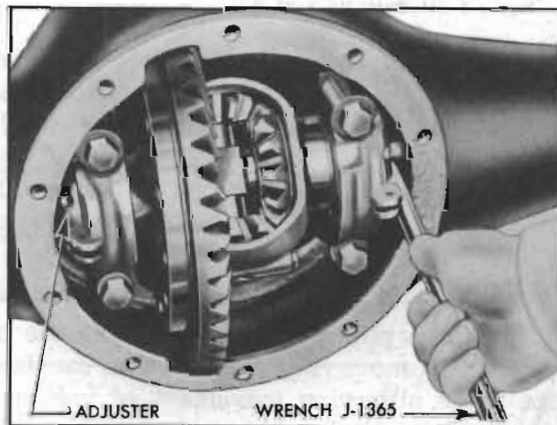

Figure 5-25—Adjusting Differential Bearings
4. Using Adjuster Wrench J 1365 (fig. 5-25) turn adjusters as required to set ring gear lash at approximately .008" to .012", with both adjusters in firm contact with bearings. **CAUTION:** *Do not use punch and hammer to turn adjusters as adjusters will be distorted and proper bearing adjustment cannot be obtained.*